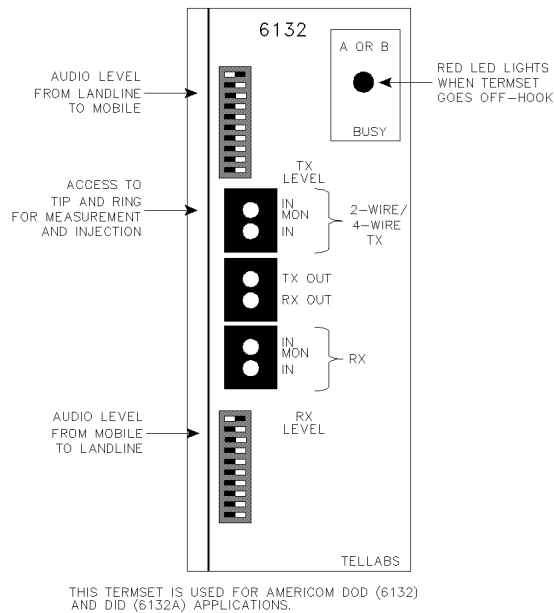

Figure 14-28 TELLABS 6132A/B TERMSET
5. Use a bantam jack to monitor Tip and Ring (2-Wire transmit in/monitor) at the Termset (see Figure 14-28).